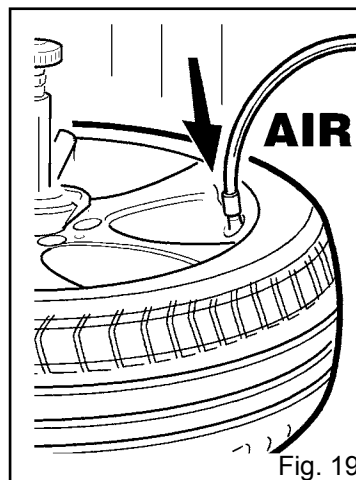

Fig. 19
- Connect the inflation hose to the valve of the tyre. (fig. 19)
- Press and release the inflation pedal ref. 20 continuously, checking the pressure on the gauge frequently until the tyre bead fits completely on the rim.
- Press the safety valve against the rim border, push the activating button onto the handle to blast air and press the inflating pedal ref. 4 in order to start inflating (fig. 19/20).